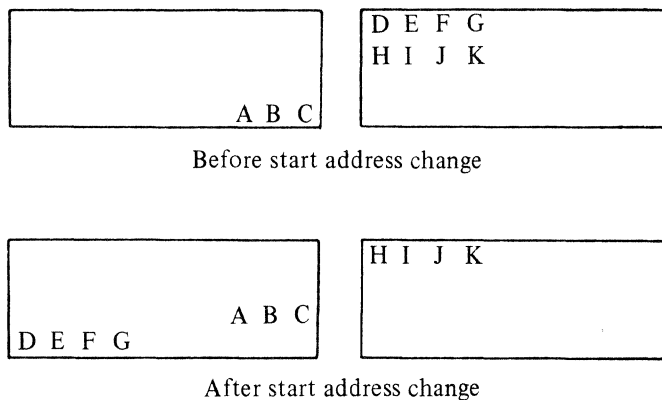

Fig. 10.1 Scrolling for Horizontal Division (Example)
- (4) If the active area is horizontally divided into 2 blocks in a module like LM211, changing the start address causes the data in the top line of the right block to be shifted to the bottom line of the block. (Fig.10.1.)